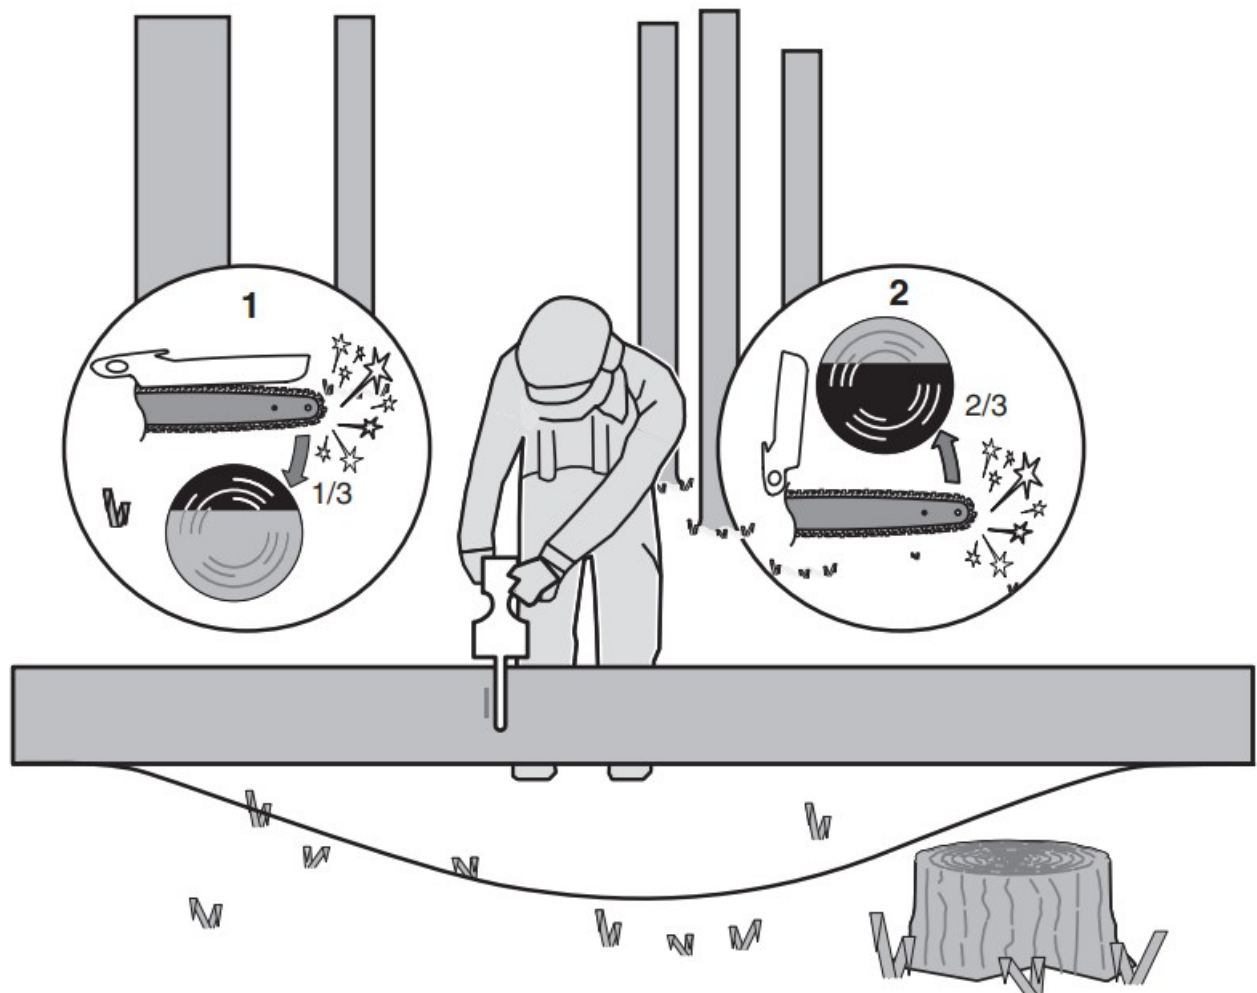

Figure 4
When the log is supported on both ends, as illustrated in Figure 4, cut $\frac{1}{3}$ the diameter from the top (overbuck) (1). Then make the finished cut by underbucking (2) the lower $\frac{2}{3}$ to meet the first cut.